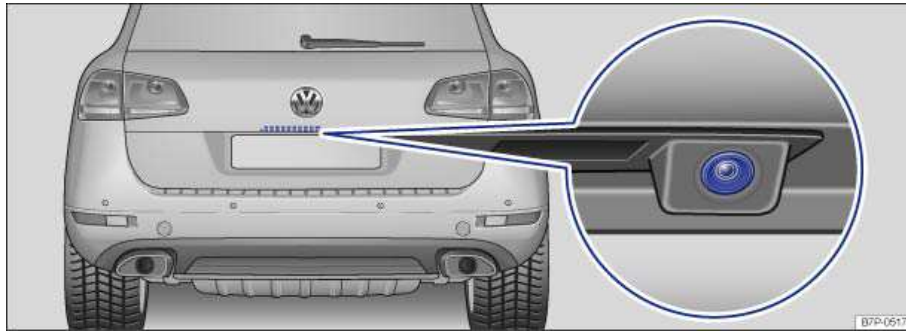

Fig. 284 In the rear hatch: Location of the Rear Assist camera.
A camera in the rear hatch ⇒ fig. 284 assists the driver while backing up or maneuvering. The camera image is shown together with orientation lines and assistance areas projected by the system on the screen of the factory-installed radio or navigation system.
- ✓ A reliable and clear image is displayed and the Rear Assist camera lens is clean. ⇒ fig. 284.
The Rear Assist camera ⇒ fig. 284 (close-up) only shows two-dimensional images. Due to the lack of depth of field, it may be difficult or impossible to identify protruding objects or recesses in the road, for example.
Keep camera lens ⇒ fig. 284 clean and free from snow and ice.